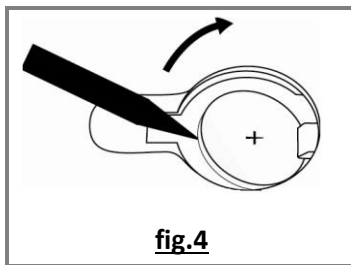

fig.4
- c. Take the used battery out by inserting the tip of pen inside the gap as shown on figure below. The battery will tip allowing you to pull it out (**fig.4**).